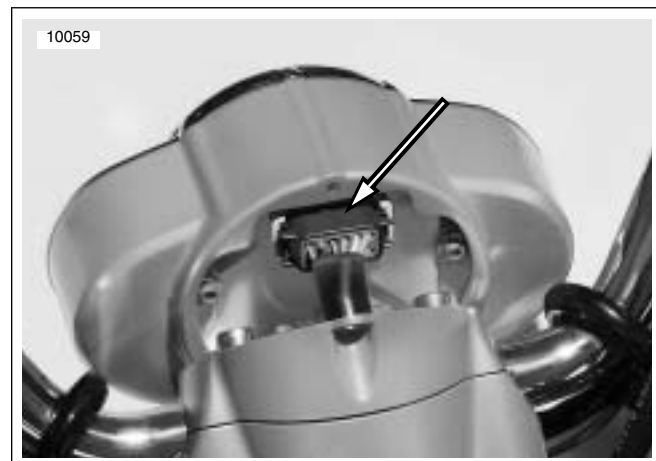

Figure 8-58. Instrument Cluster Connector [39B]
4. See Figure 8-58. Squeeze two release latches together and pull wiring harness connector [39B] from instrument cluster.